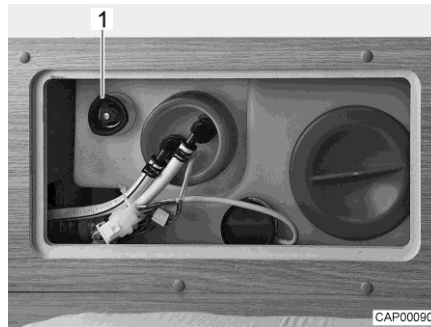

Fig. 104 Water tank with rotary handle
- Turn the rotary handle (Fig. 104,1) on the water tank in an anticlockwise direction as far as possible beyond the resistance to fully open the drainage opening.